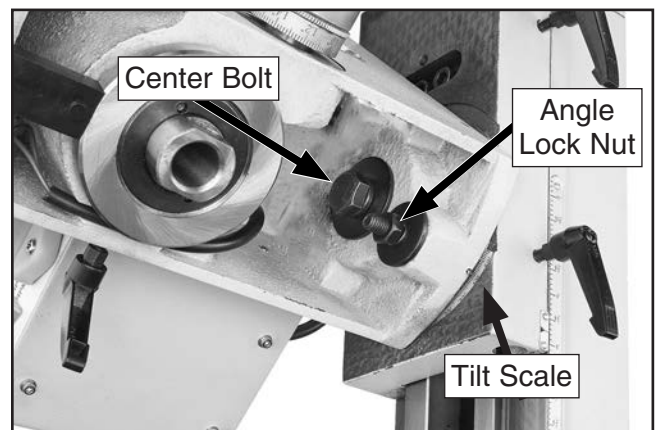

Figure 22. Headstock tilt controls.
2. Support headstock with one hand, then loosen headstock center bolt and angle lock nut (see **Figure 22**).